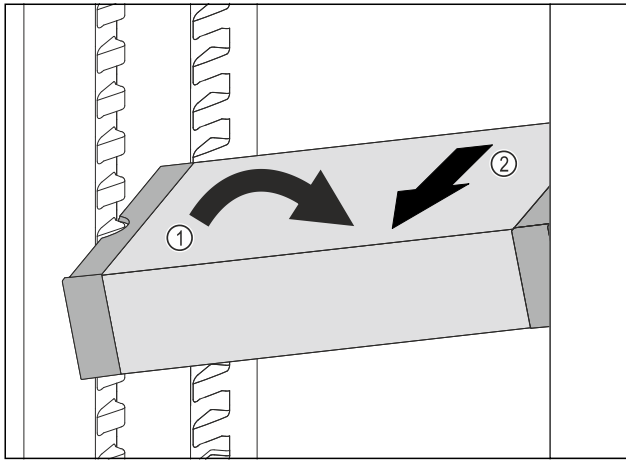

Fig. 122
- ▶ Set VarioSafe in refrigerator compartment at an angle. Fig. 122 (1)
- ▶ Take VarioSafe out to the front. Fig. 122 (2)